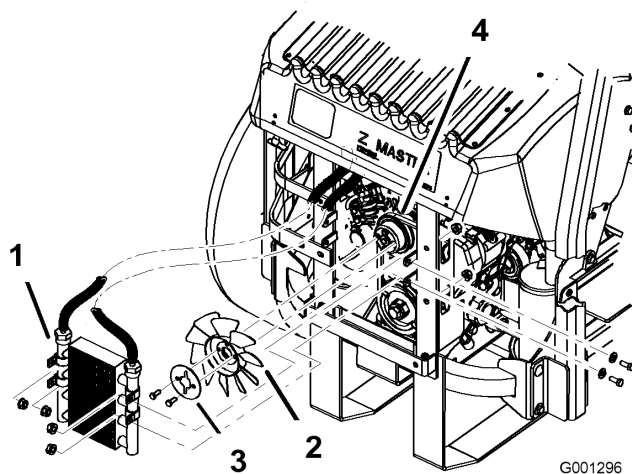

Figure 60
5. Remove the 4 bolts holding the oil cooler and position the oil cooler to the side (Figure 60).
6. Remove the 2 bolts holding the fan and fan plate to the machine (Figure 60).
10. Install the fan and fan plate to the machine with the 2 bolts previously removed (Figure 60).
11. Install the oil cooler with the 4 bolts previously removed (Figure 60).